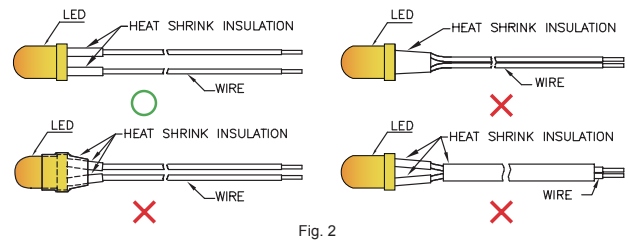

Fig. 2
2. When soldering wires to the LED, each wire joint should be separately insulated with heat-shrink tube to prevent short-circuit contact. Do not bundle both wires in one heat shrink tube to avoid pinching the LED leads. Pinching stress on the LED leads may damage the internal structures and cause failure. (Fig.2)